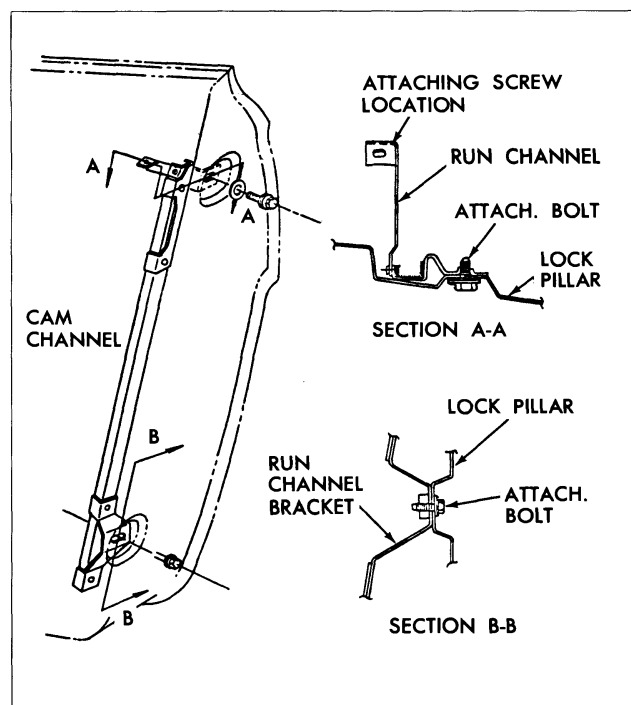

Fig. 3-37 Glass Run Channel
3. Remove the glass run channel two attaching bolts on lock pillar panel and the single attaching screw in door inner panel (Fig. 3-37).